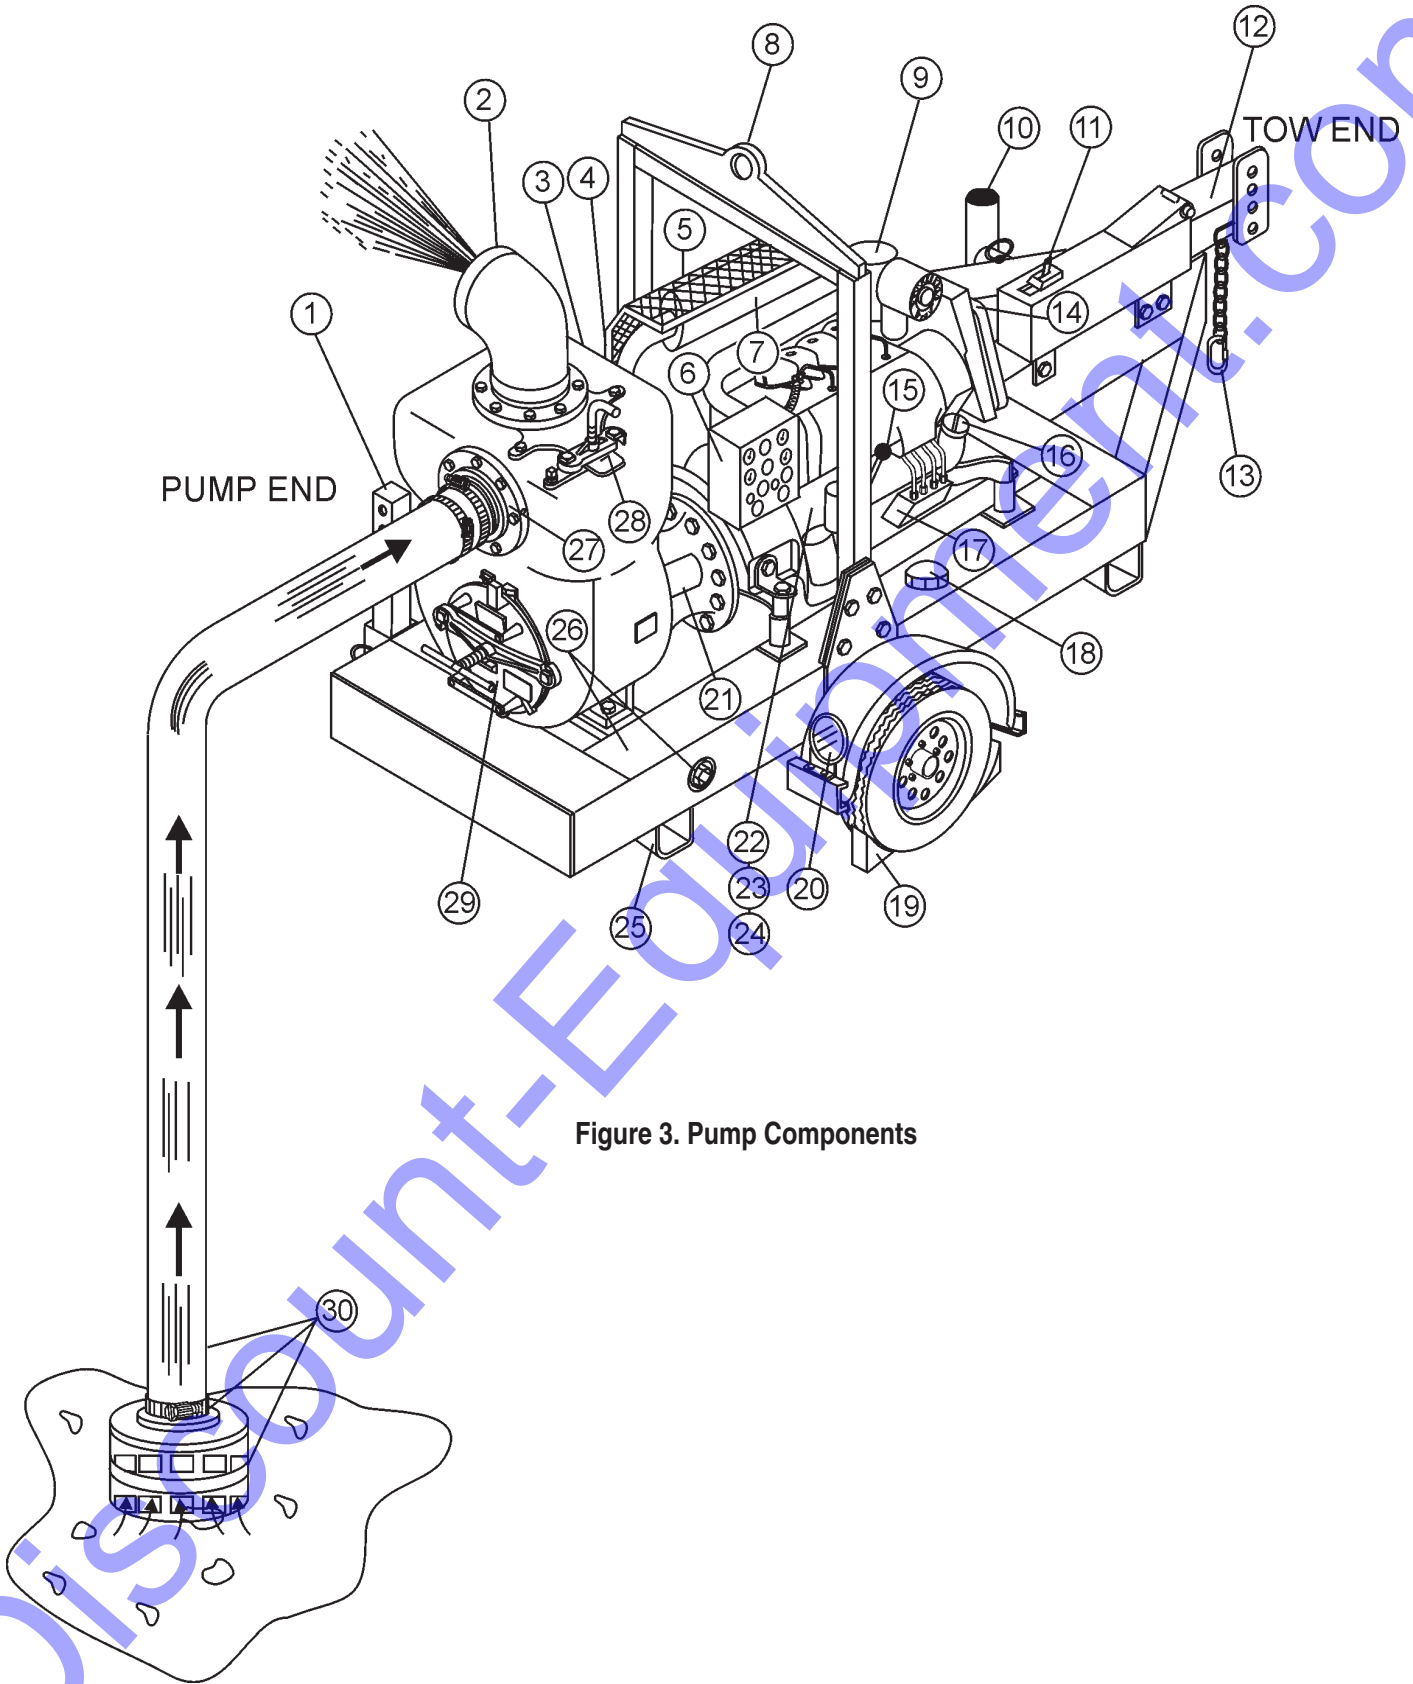

Figure 3. Pump Components
Figure 3 shows the location of the components and basic components for the MQ600TD80 trash pump. The function of each component or control is described below:
3. To prime pump, remove fill cap (Figure 3) and fill pump case with water. If the pump case is not filled with water before starting, it will not begin pumping.
6. Make sure the **suction strainer** (Figure 3) is clean and securely attached to the water end of the suction hose. The strainer is designed to protect the pump by preventing large objects from being pulled into the pump.
1. Check that all hoses are **securely** attached to the pump. Make certain suction hose (Figure 3) does not have any air leakage. Tighten hose clamps and couplings as required.
4. Check that the **discharge** hose (Figure 3) is not restricted. Place hose so that it lays as straight as it is possible on the ground. Remove any twists or sharp bends from hose which may block the flow of water.